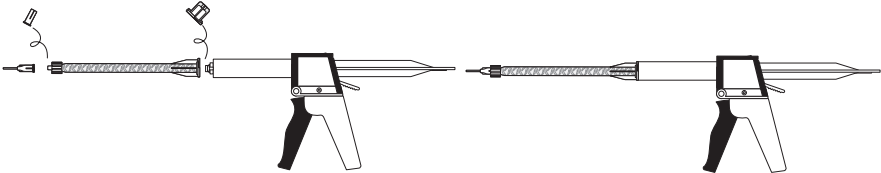

Figure 21 Attaching the Feed Tube and Syringe
4. Twist the feed tube onto the cartridge and attach the syringe tip to the feed tube (Figure 21).